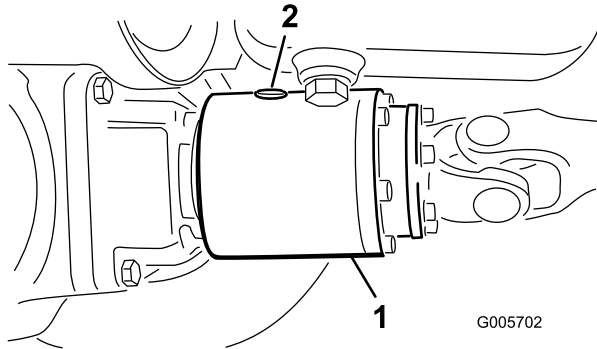

Figure 32
2. Rotate clutch (Figure 32) so check plug (shown in 12 o'clock position) is positioned at 4 o'clock.